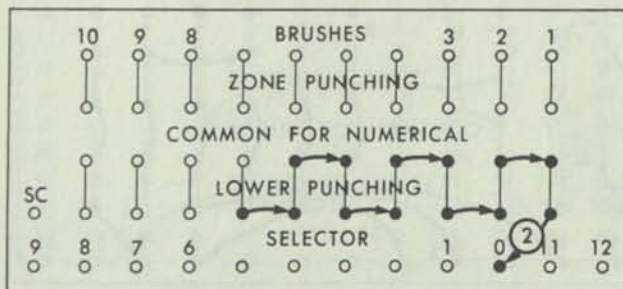

Figure 38. Zero Elimination (82)
Zero Elimination During Numerical Sorting: Wire the panel as shown in Figure 38 to reject cards requiring no further sorting after the column being sorted.
2. Wire the lower-punching hubs together and to the zero selector hub (Figure 38).
Accelerated Alphabetic Sorting: Zero elimination (Figure 38) can accelerate alphabetic sorting by rejecting cards with short names that do not have to be sorted on every column of the alphabetic field. In the example in Figure 39 all cards punched in 5